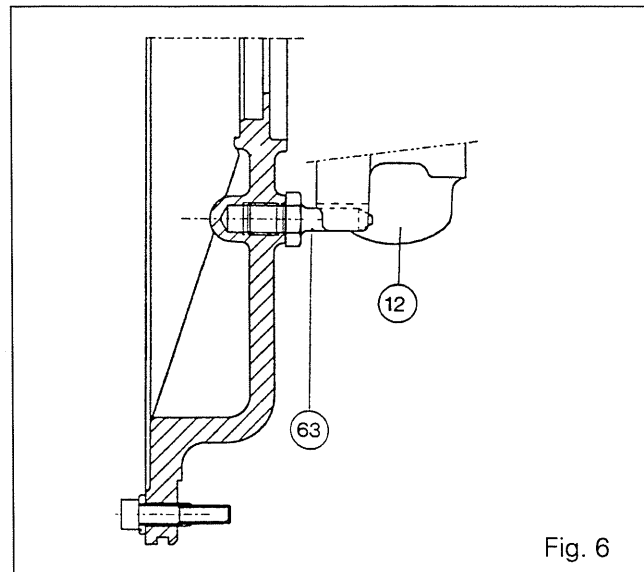

Fig. 6
20. Grease the oil seal (57). Fit protector 3378012M1 on the shaft (7). Screw two guide studs in diametrically opposite positions on the spacer and reinstall the plate (10) and fit the finger (63) in the notch in the pump body (12) (Fig. 6).
21. Tighten the bolts (5) and (62) to a torque of 25 to 35 Nm.
47. Refit the cover plate with the finger (63) in the notch on the pump body (12) (Fig. 6), using the same method as for procedure 12.
48. Tighten bolts (5) and (62) fitted with washers (6) to a torque of 25 to 35 Nm.
**Note: The two long bolts (62) are fitted with the locating dowels (61).**
49. Replace O-ring (28). If O-ring (29) was removed, replace it and refit the suction unit (30). Fit bolts (31) and tighten them to a torque of 14 to 20 Nm.